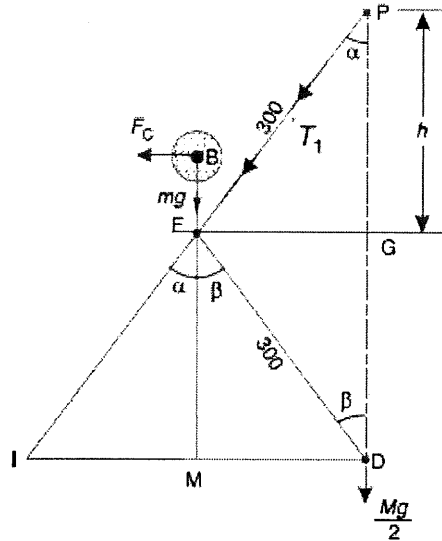

Figure 4
- b) A governor of the Proell type has each arm 300 mm long shown in Figure 4. The pivots of the upper and lower arms are pivot on the axis of the governor. The central load acting on the sleeve has a mass of 100 kg and the each rotating ball has a mass of 10 kg. When the governor sleeve is in mid-position, the extension link of the lower arm is vertical and the radius of the path of rotation of the masses is 180 mm. the vertical height of the governor is 200 mm. If the governor speed is 160 rev/min. when in mid-position, **solve**